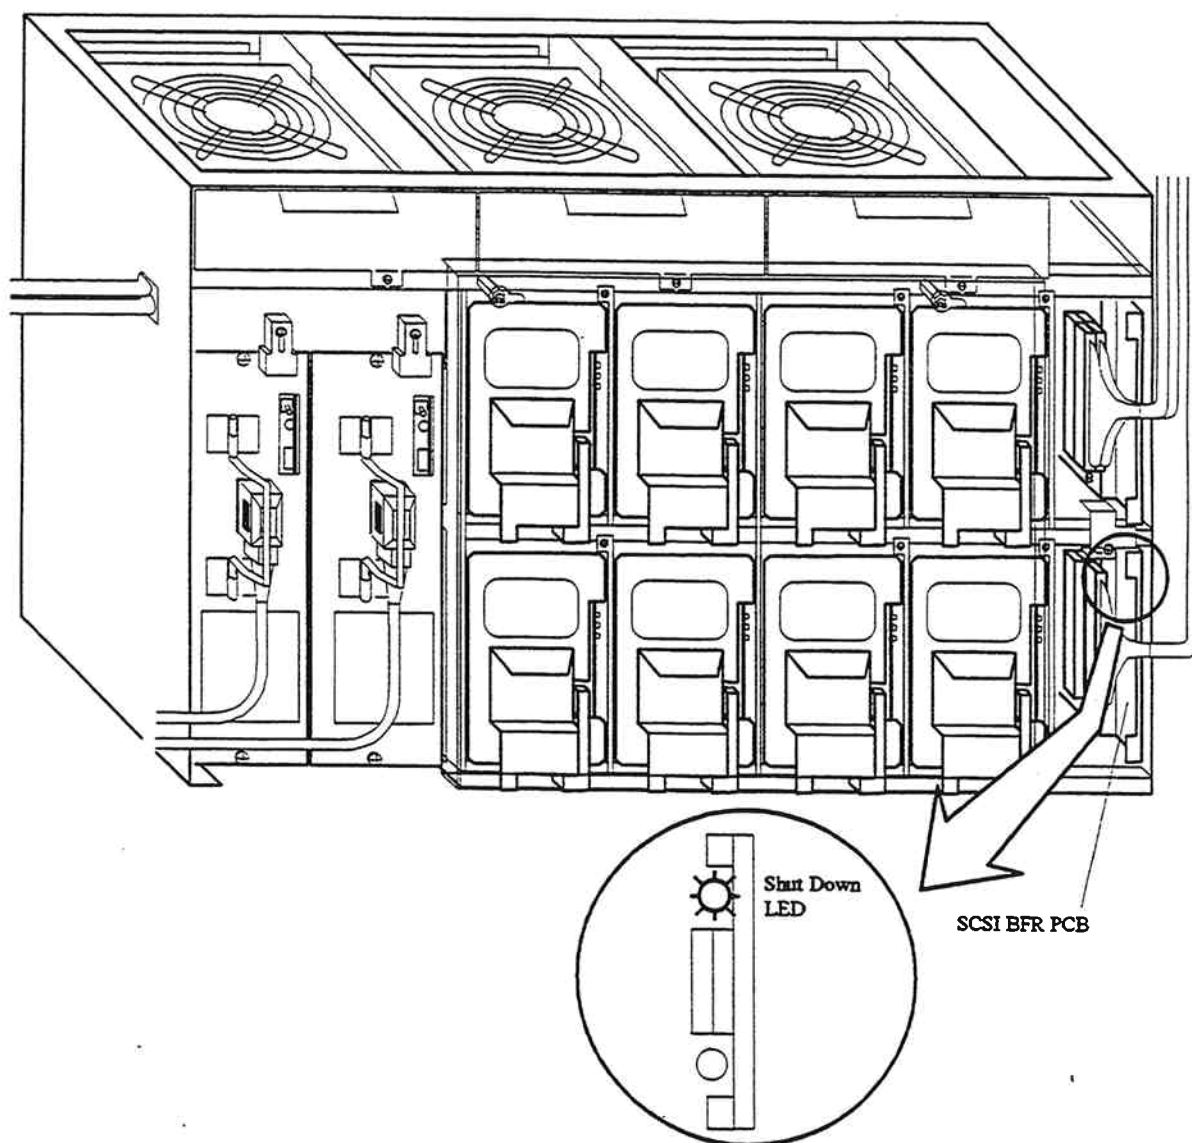

Fig. 3.3.13.2.4-6 Confirmation of the Shut Down LED Light
7. Connect the SCSI interface cables to the SCSI BFR PCBs in the first DKU chassis referring to figures 3.3.13.2.4-7 and 3.3.13.2.4-8.